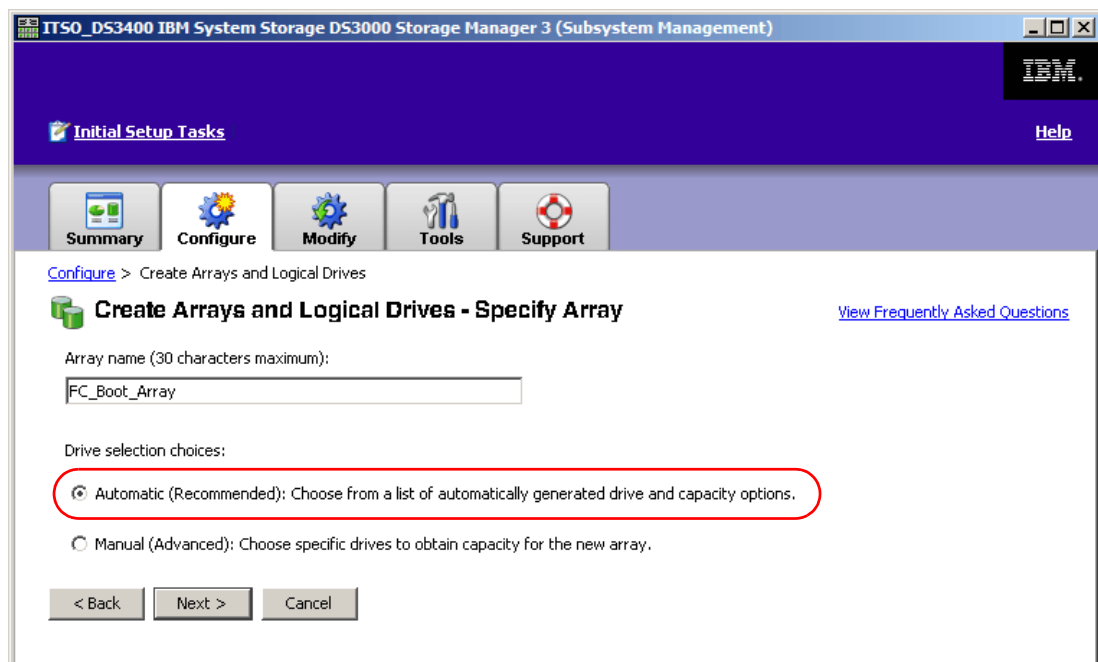

Figure 27-19 Drive selection choices
4. In Figure 27-19, specify the array name, in our example FC\_Boot\_Array. There are two drive selection choices. We select **Automatic.**